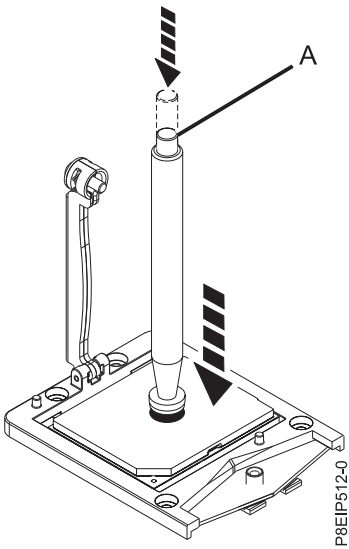

Figure 36. Lowering the removal tool onto the system processor module
8. Lower the vacuum pen tool onto the system processor module to install. Fully press the top of the pen (A) and hold the pen in the center of the system processor module as shown in Figure 36. Release the top of the pen to fasten the pen onto the system processor module.